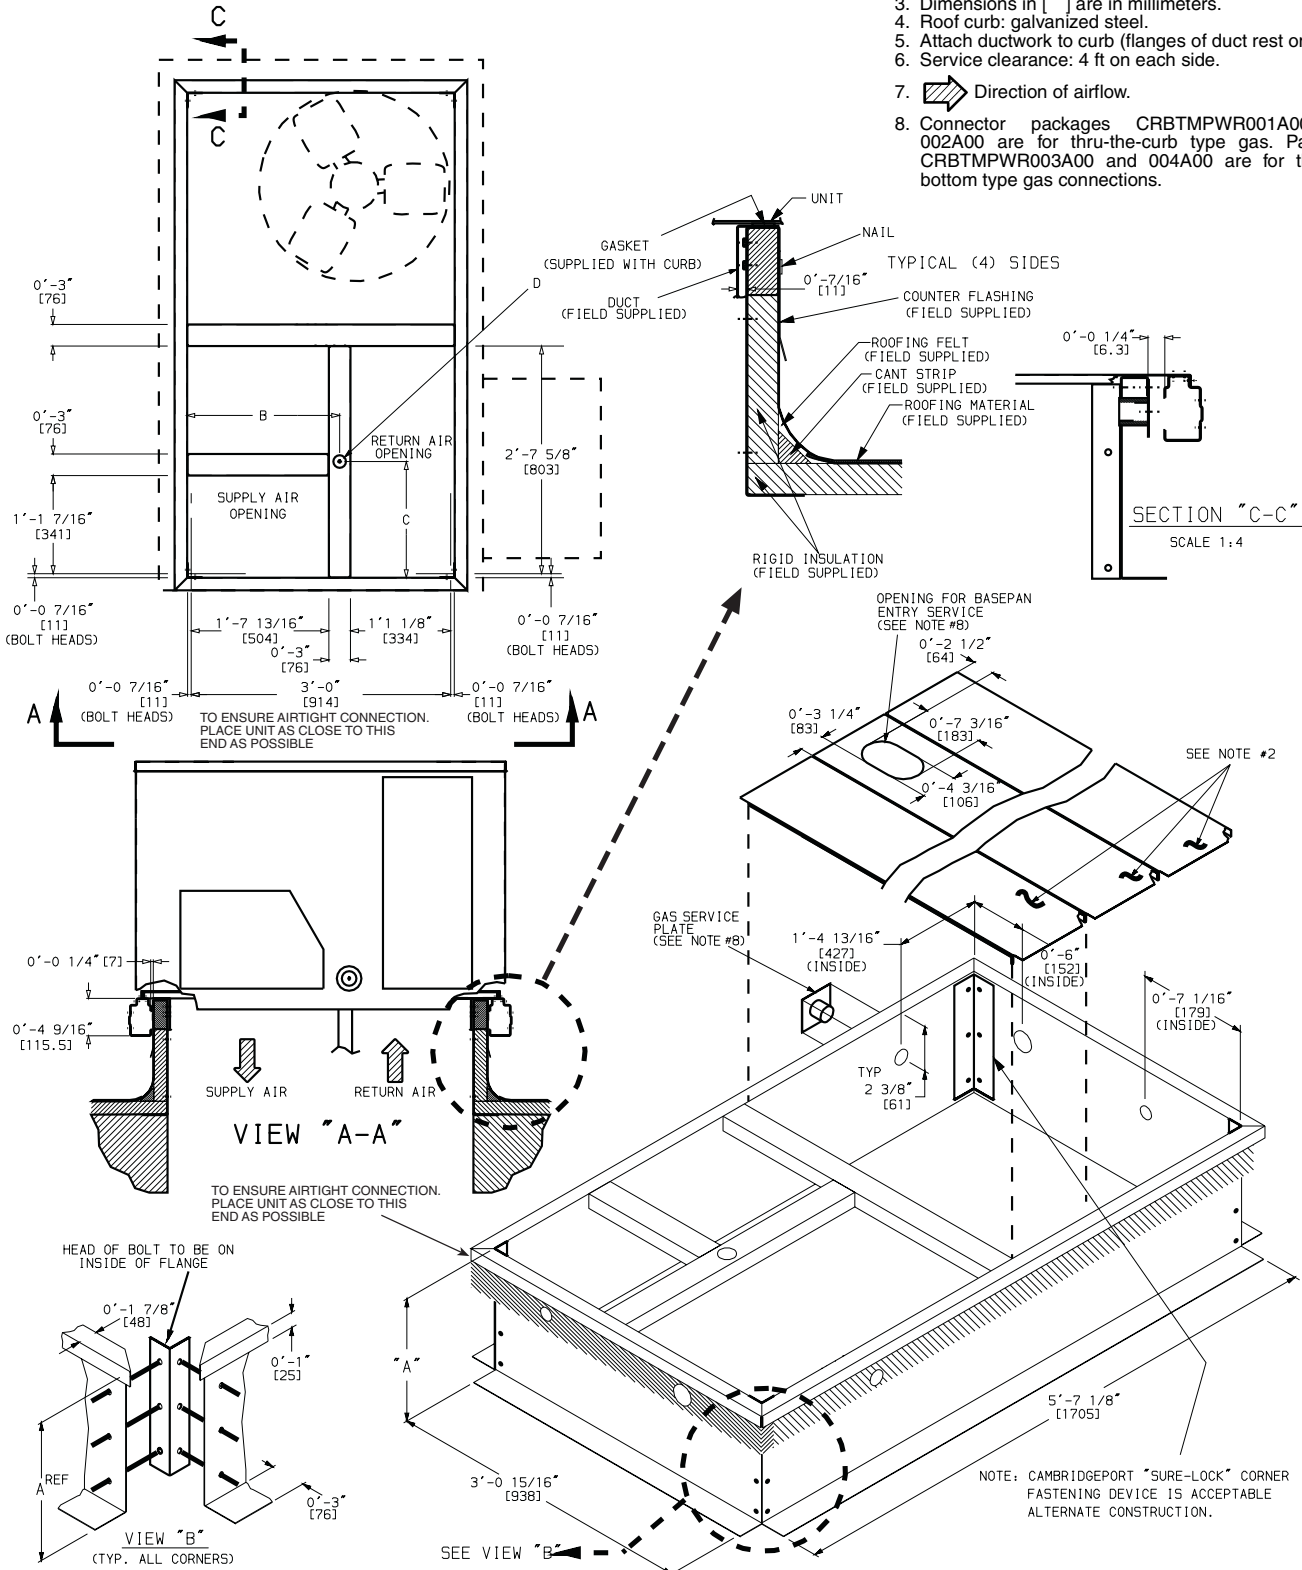
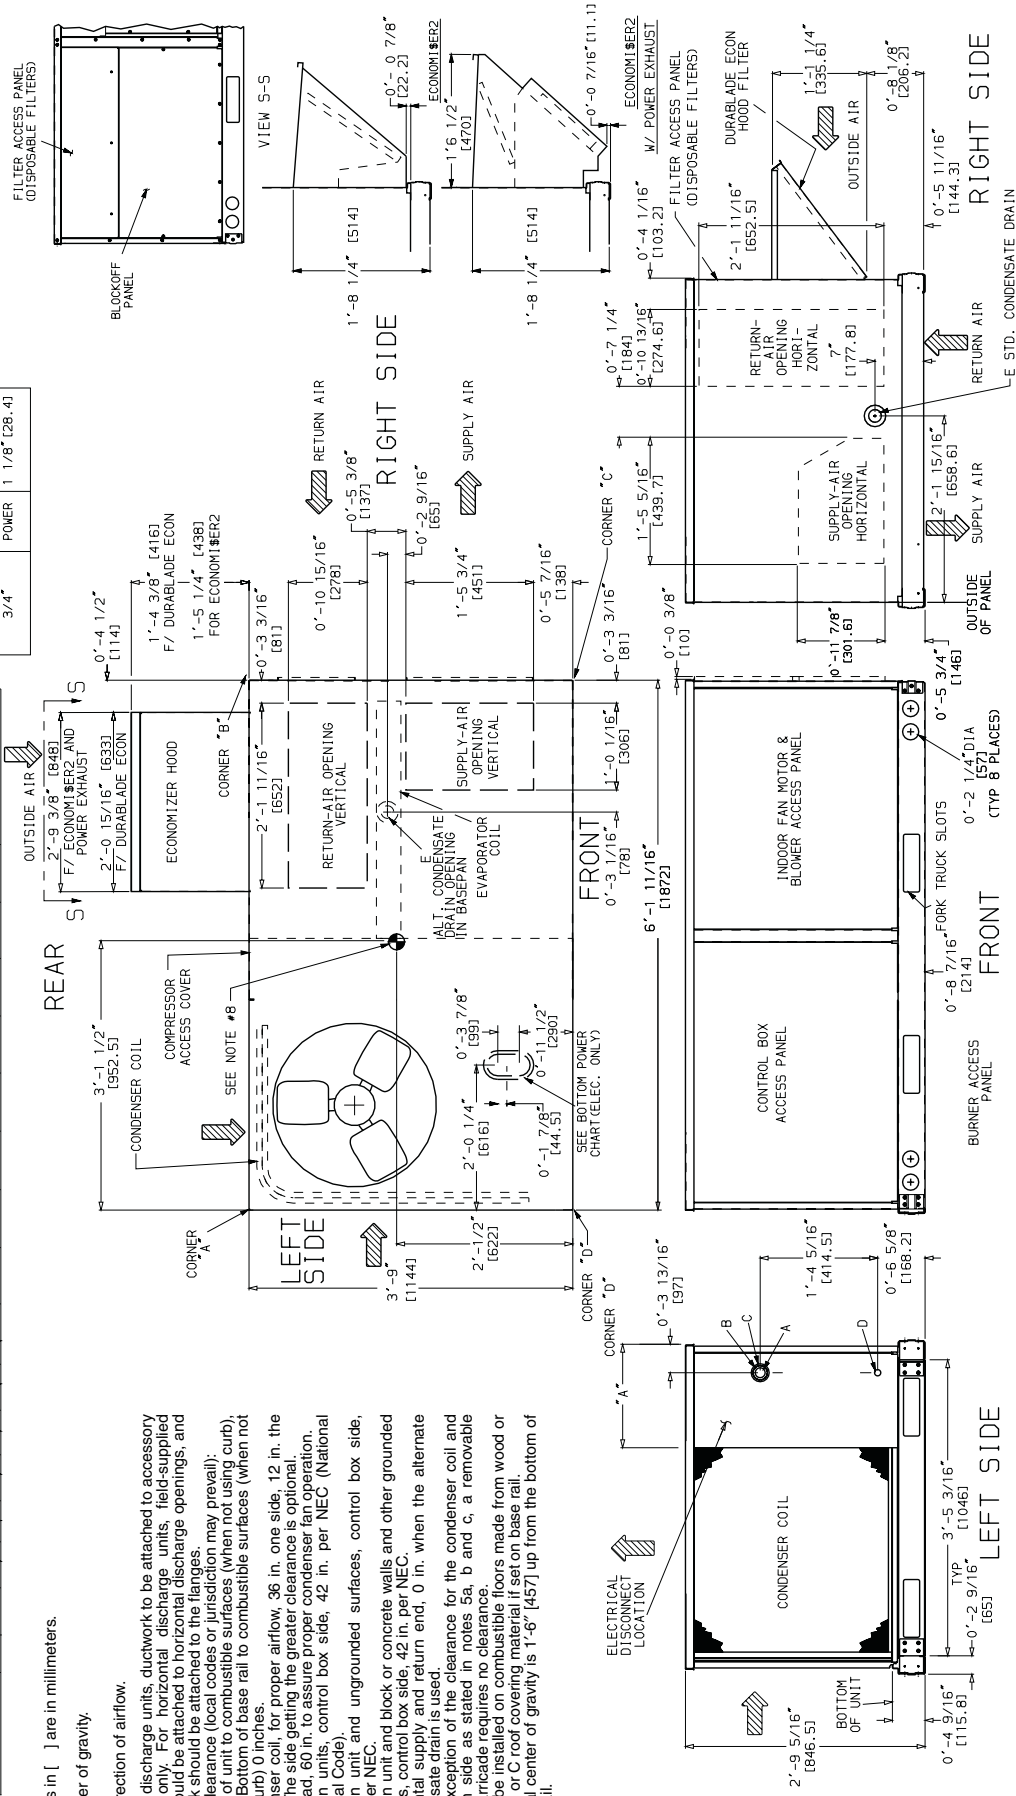

Fig. 2 — Roof Curb Details
Fig. 6A — Base Unit Dimensions — 50TFF004-007 and 50TM004-006 Units
ROOF CURB — Assemble and install accessory roof curb in accordance with instructions shipped with curb. See Fig. 2. Install insulation, cant strips, roofing felt, and counter flashing as shown. *Ductwork must be attached to curb, not to unit.* If electric or control power is to be routed through the basepan, attach the accessory thru-the-bottom service connections to the basepan in accordance with the accessory installation instructions. *Connection must be installed before unit is set on roof curb.*
IMPORTANT: The gasketing of the unit to the roof curb is critical for a watertight seal. Install gasket supplied with the roof curb as shown in Fig. 2. Improperly applied gasket can also result in air leaks and poor unit performance.
Step 4 — Rig and Place Unit — Inspect unit for transportation damage. File any claim with transportation agency. Keep unit upright and do not drop. Spreader bars are not required if top crating is left on unit. Rollers may be used to move unit across a roof. Level by using unit frame as a reference. See Tables 1A and 1B and Fig. 5 for additional information. Operating weight is shown in Tables 1A and 1B and Fig. 6A and 6B.
Lifting holes are provided in base rails as shown in Fig. 6A and 6B. Refer to rigging instructions on unit.
POSITIONING — Maintain clearance around and above unit to provide proper airflow and service access. See Fig. 6A and 6B. A properly positioned unit will have the following clearances: 1/4-in. clearance between roof curb and base rails on each side and duct end of unit; 1/4-in. clearance between roof curb and condenser coil end of unit. (See Fig. 2, section C-C.)